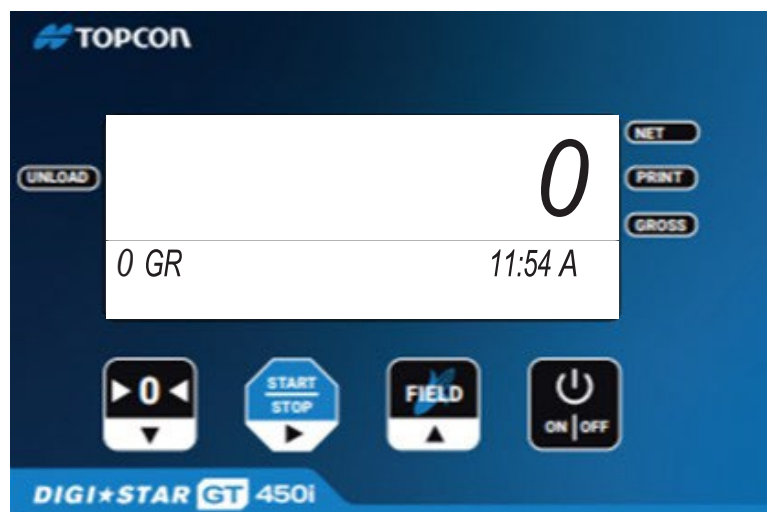

Figure 2-2: Zero Balance Indicator
1. Press and hold **ZERO/BALANCE** for 3 seconds to zero balance indicator. (Figure 2-2).